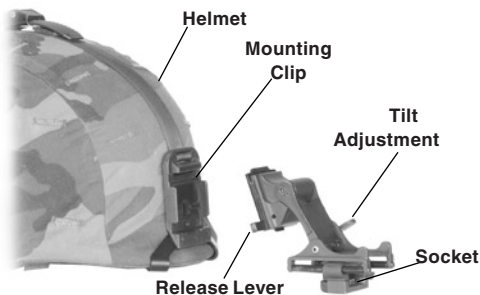

Figure 2-10. Quick Disconnect Helmet Mount Features
1. Remove the helmet mount assembly from the carrying case. Make sure the helmet mount is complete. Refer to Figure 2-10 for the helmet mount components and features.
6. If the PASGT helmet has its cloth cover and camouflage strap installed, it will be necessary to slide the camouflage strap up (at about a 30°-45° angle) at the front of the helmet (see Figure 2-10).
press to the mount assembly bottom until it locks into place with a click (see Figure 2-10).